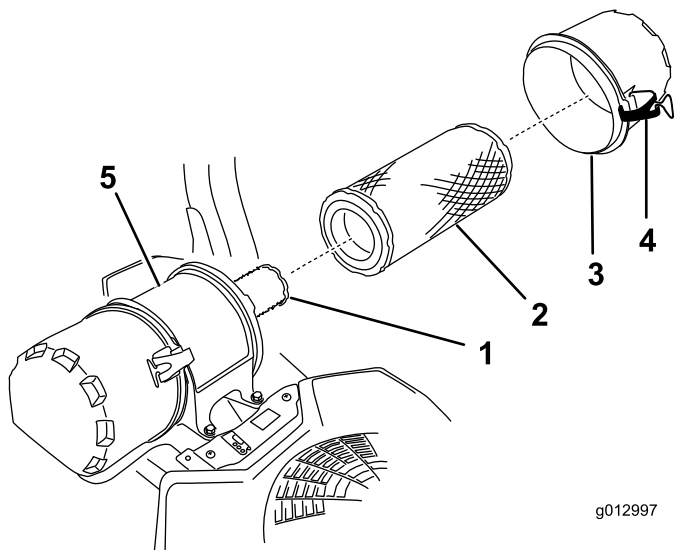

Figure 44
6. Release the latches on the air cleaner and pull the air-cleaner cover off the air-cleaner body (Figure 44).
8. Gently slide the primary filter out of the air-cleaner body (Figure 44).
2. If you are replacing the inner filter, carefully slide it into the filter body (Figure 44).
3. Carefully slide the primary filter over the inner filter (Figure 44).
4. Install the air-cleaner cover and secure the latches (Figure 44).